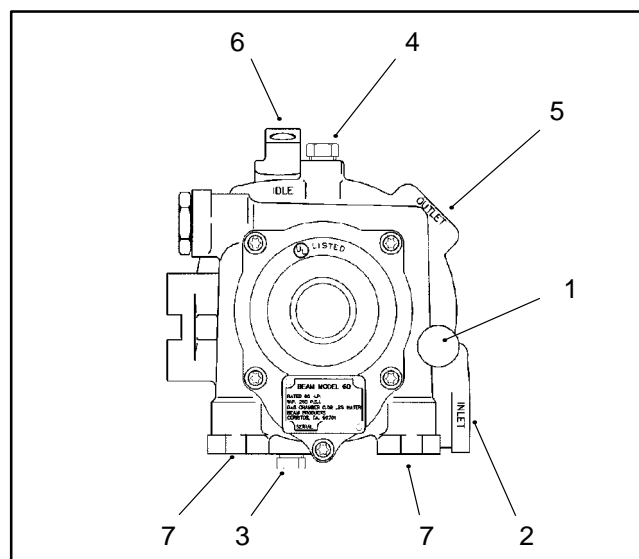

Figure 6
1. Connect 0 to 5 PSI test gauge to the primary pressure test port on the vaporizer regulator (Fig. 6).